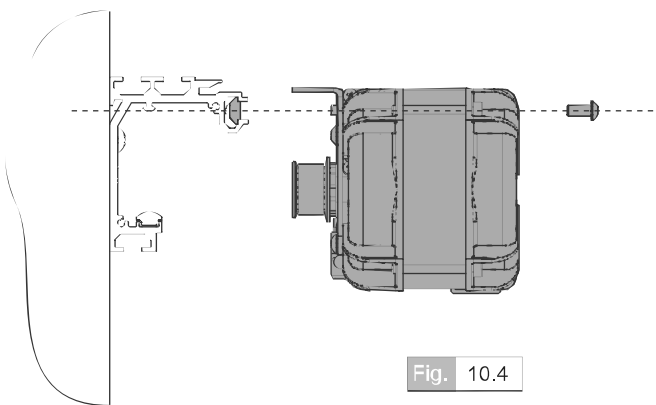

Fig. 10.4
**i** Screw the drive unit to the main profile as shown in the diagrams. Fig. 10.4 Fig. 10.5